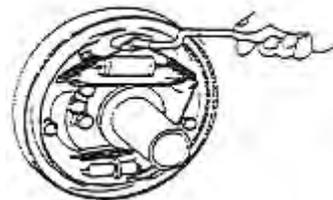

figure 2-27
(7) Put compress spring on hand brake handspike, hen fix handspike on brake hoof. See figure 2-27